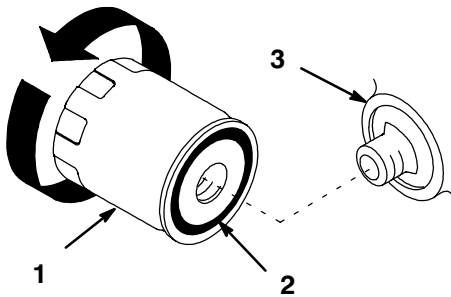

Figure 60
2. Remove the old filter and wipe the filter adapter (Fig. 60) gasket surface.
4. Apply a thin coat of new oil to the rubber gasket on the replacement filter (Fig. 60).
5. Install the replacement oil filter to the filter adapter. Turn the oil filter clockwise until the rubber gasket contacts the filter adapter, then tighten the filter an additional 1/2 turn (Fig. 60).